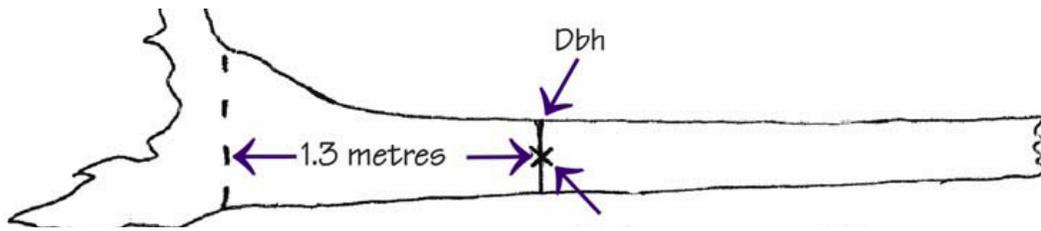

Fig. 1. DBH measurement location of a fallen living tree.
- On fallen trees, DBH is to be taken at 1.3 m along the horizontal trunk of the tree from the point of germination. See Fig. 1.